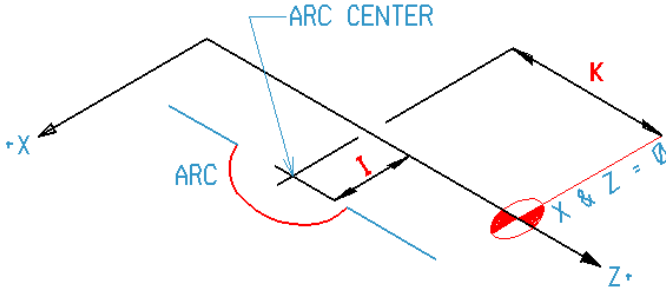

FIGURE 2
- In absolute IJ mode I and J (which represent the center point) are the coordinates of the center in the current coordinate system (after application of the work, tool, and G52/G92 offsets) as shown in FIGURE 2. Note the use of **K** and not “J”.
- The second way is that I and K specify the center as actual coordinates in the current system. This is rather misleadingly called Absolute IJ mode. (see FIGURE 2)